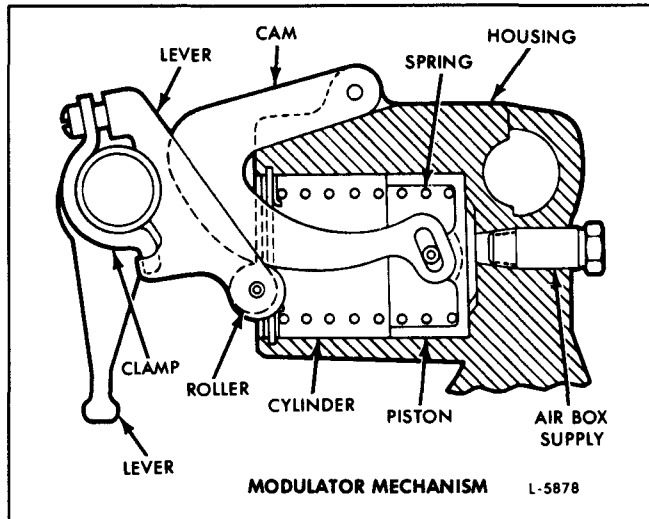

Fig. 10 – Typical Fuel Modulator Assembly
3. Rotate the air box modulator lever assembly and clamp on the injector control tube until the lever roller contacts the modulator cam with sufficient force to take up the pin clearance (Fig. 10).